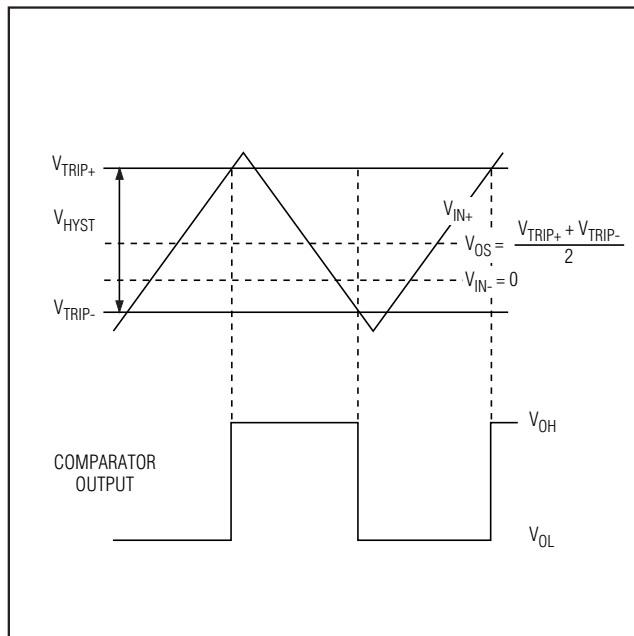

Figure 1. Input and Output Waveform, Noninverting Input Varied
**Note 4:** VOS is defined as the center of the input-referred hysteresis zone. See Figure 1.
**Note 5:** The input-referred trip points are the extremities of the differential input voltage required to make the comparator output change state. The difference between the upper and lower trip points is equal to the width of the input-referred hysteresis zone. See Figure 1.
The hysteresis in a comparator creates two trip points: one for the rising input voltage and one for the falling input voltage (Figure 1). The difference between the trip points is the hysteresis. The average of the trip points is the offset voltage. When the comparator's input voltages are equal, the hysteresis effectively causes one comparator input voltage to move quickly past the other, thus taking the input out of the region where oscillation occurs. Standard comparators require hysteresis to be added with external resistors. The MAX9140/MAX9141/MAX9142/MAX9144's fixed internal hysteresis eliminates these resistors. To increase hysteresis and noise margin even more, add positive feedback with two resistors as a voltage divider from the output to the noninverting input.
Figure 1 illustrates the case where IN- is fixed and IN+ is varied. If the inputs were reversed, the figure would look the same, except the output would be inverted.